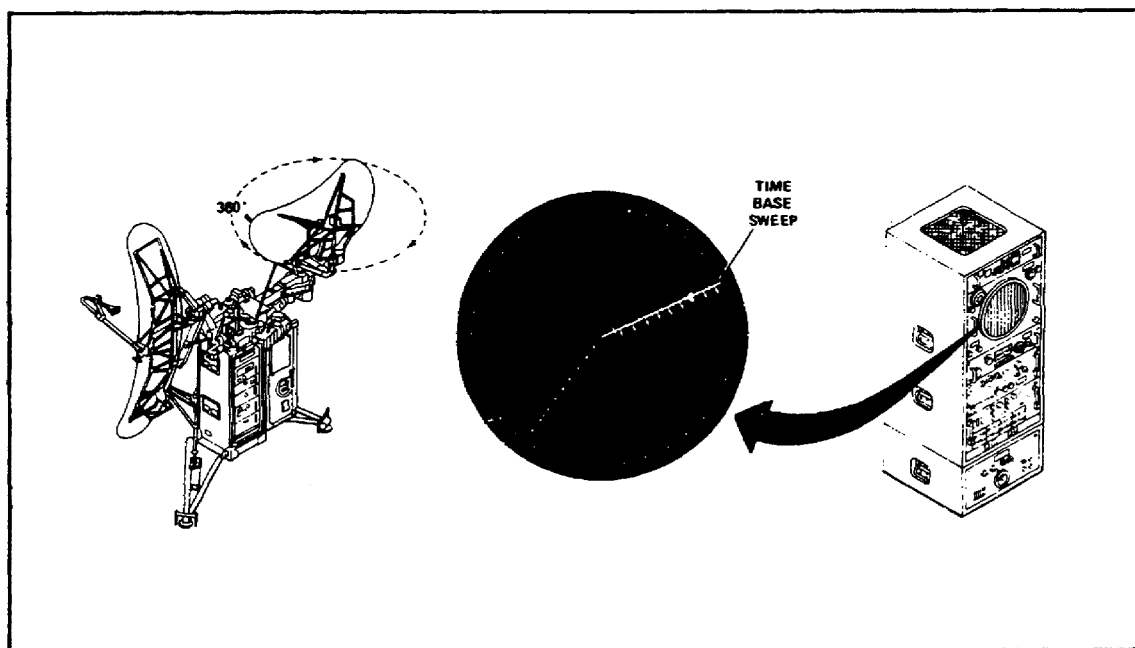

Figure 35. Indicator azimuth-elevation-range IP-800/FPN-40
l. Rotate INTENSITY control R-2404 clockwise on indicator azimuth-elevation-range IP-800/FPN-40 until a time base sweep appears on the CRT (cathode ray tube). (See Figure 35.)